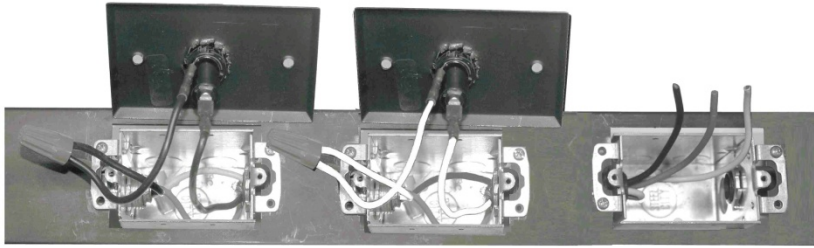

Figure 10— Install wiring for Adjoining Junction Box
Step 10— Add field supplied wires to both “In-Line Fuses” using field supplied female quick connect terminals. Pass all wires, including ground, through interconnecting conduit nipple(s) to the “Receptacle Outlet” junction box in position "A", as shown in Figure 10.